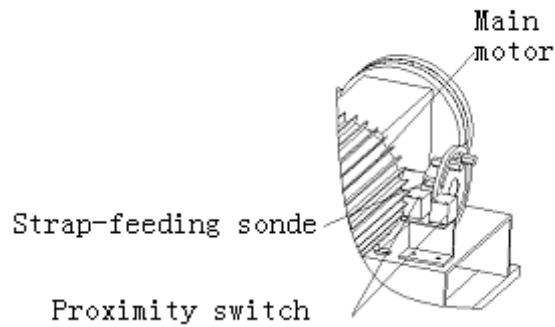

Fig 2-14
- ① When the two proximity switches induce strap-feeding sonde shown as Fig 2-14, main motor starts and the machines starts feeding strap.